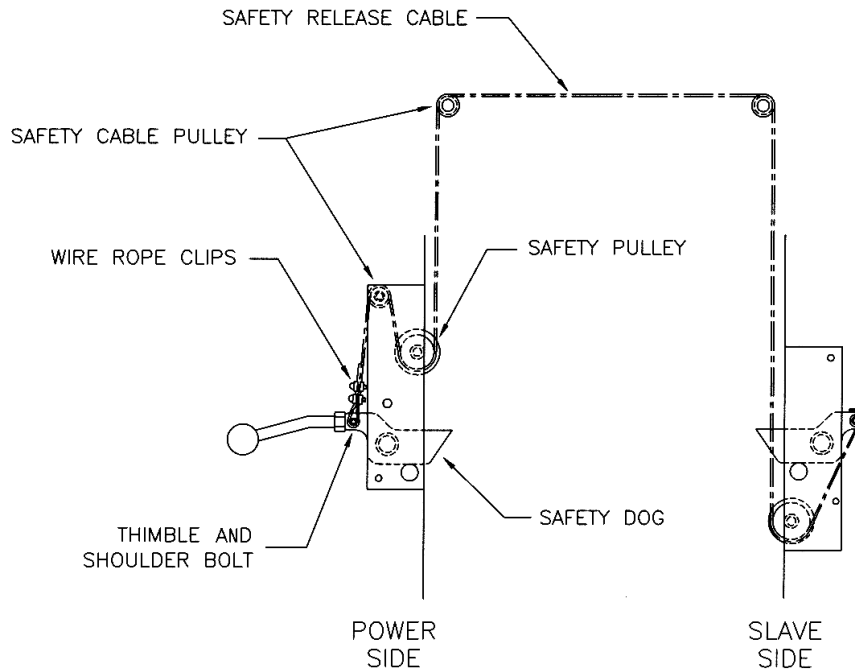

Figure 10 – Safety Release Cable Routing and Adjustment
1. Refer to **Figure 10** for safety release cable routing.